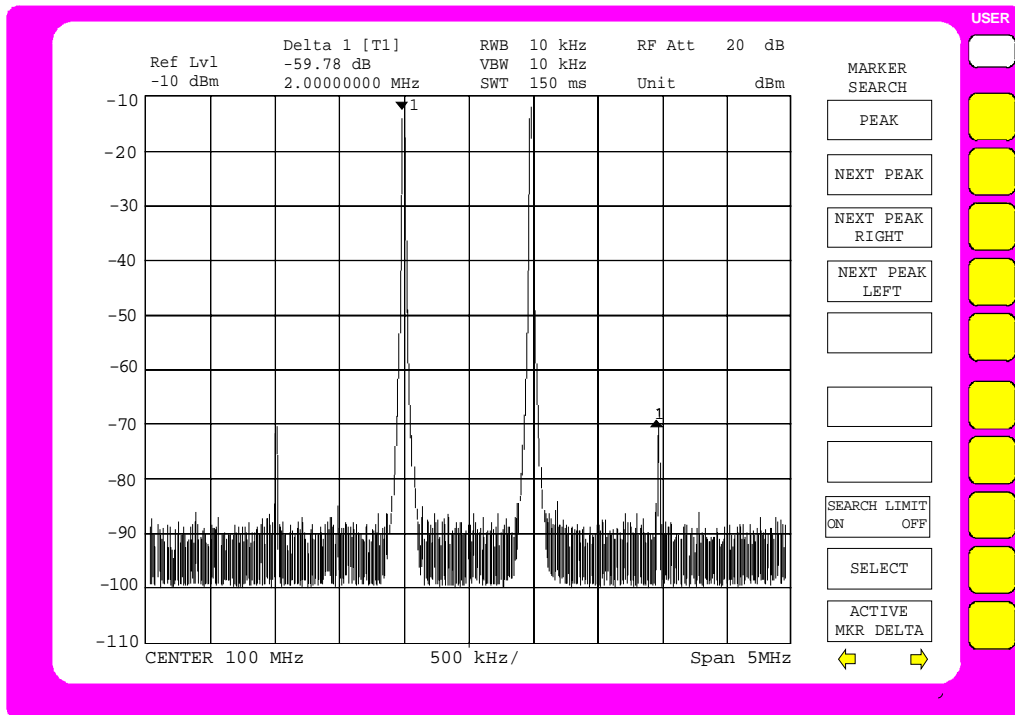

Fig.2-13 Measuring diagram in low distortion mode
The FSE shows the measuring diagram in Fig.2-13
If the amplitude of the IM products doesn't change, the existing setting is sufficient (see Fig.2-13)
- Move the marker to an intermodulation product using the roll-key (see Fig.2-13).
- Press the *NEXT PEAK RIGHT* softkey until the delta marker appears on one of the IM products (see Fig.2-13).